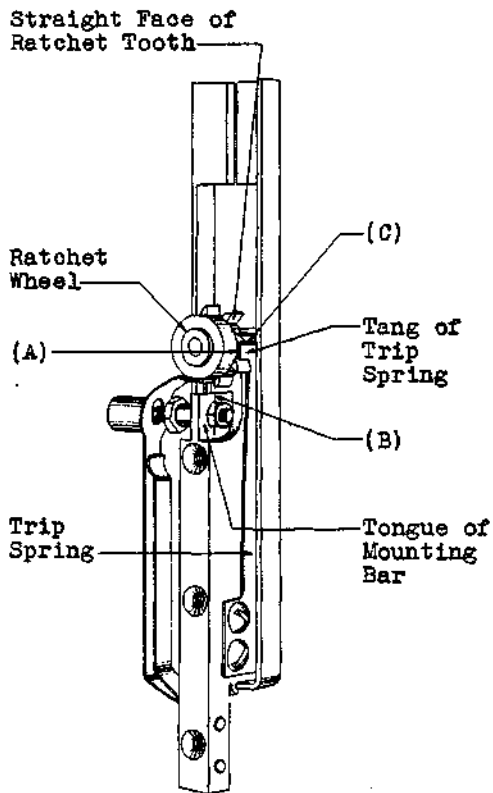

Fig. 2
(a) Fig. 2 (A) - The tangs on the trip springs shall lie flat and shall bear snugly against the bottom surfaces of the ratchet wheel teeth. Gauge by eye.
(1) Fig. 2 (B) - the straight face of each ratchet tooth when it is nearest the mounting bar shall be approximately parallel to the tongue of the mounting bar. Gauge by eye.
(2) Fig. 2 (C) - the clearance between the straight face of any ratchet tooth and one tang shall not exceed .003" when the tang of the other spring is engaging a ratchet tooth. Gauge by eye.